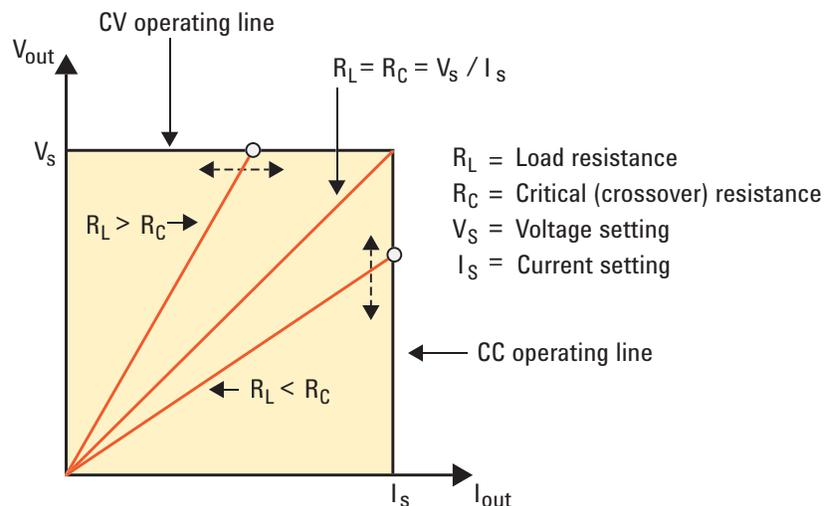

Figure 1: Power supply output characteristic
A power supply will operate in constant voltage (CV) mode provided the load does not require more current than the current limit setting. Based on Ohm's law, $V = I \times R$, maintaining a constant voltage while changing the load resistance requires the current to increase or decrease. As long as the current draw $I_{out} = V_s / R_L$ is less than the current limit setting, the power supply regulates the output at the voltage setting. In Figure 1, the power supply will operate on the horizontal line V_s with $I_{out} = V_s / R_L$.
is known as constant current (CC). In Figure 1, the power supply will operate on the vertical line I_s with $V_{out} = I_s \times R_L$.
- The load resistance is R_C , the value at which the output will crossover from CV to CC, or CC to CV (see Figure 1).